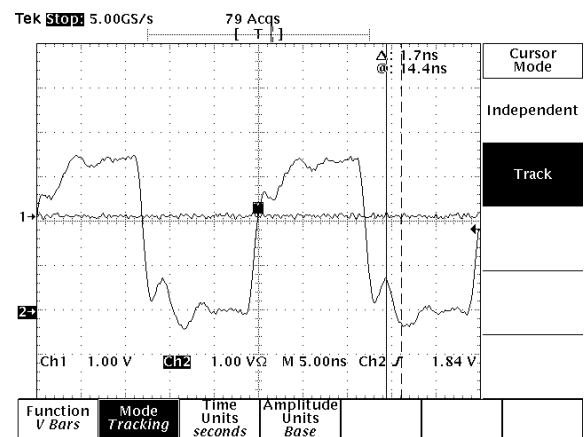

Figure 8: w/o ext;  $68\ \Omega$ ; n.p.; w/o stub
- Without extension; without dead termination;  $R = 68\ \Omega$ ; normal probe; this is a bad signal, since there is a reflection for each cycle starting at around 0 v and 0.5 V high, that can be interpreted as a clock pulse. (figure 8)